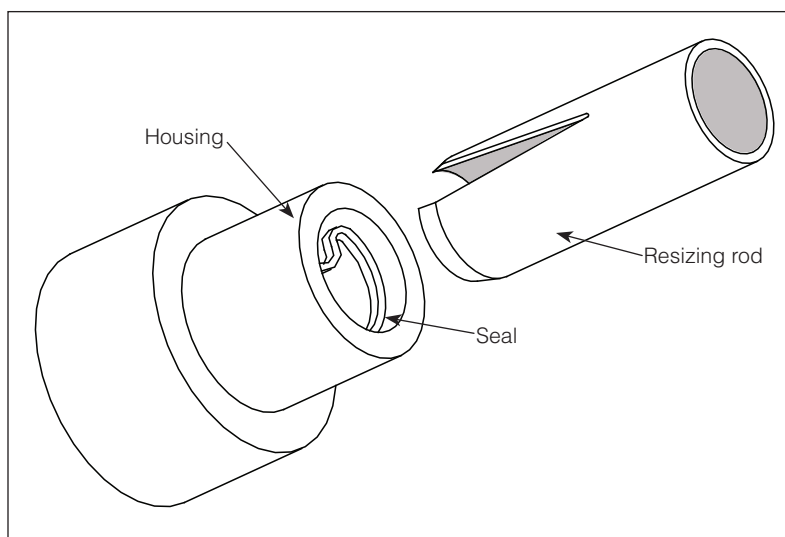

Figure 2-23. Rod seal installation
5. For PTFE seals, after unfolding the seal in the groove, use a resizing tool (Figure 2-23) to re-expand the seal.